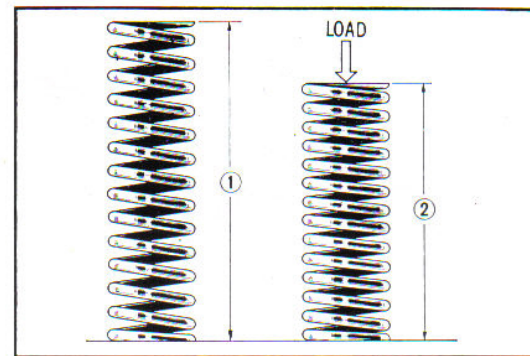

Fig. 4.21 Front cushion spring measurement
1. Front cushion spring (Fig. 4.21)